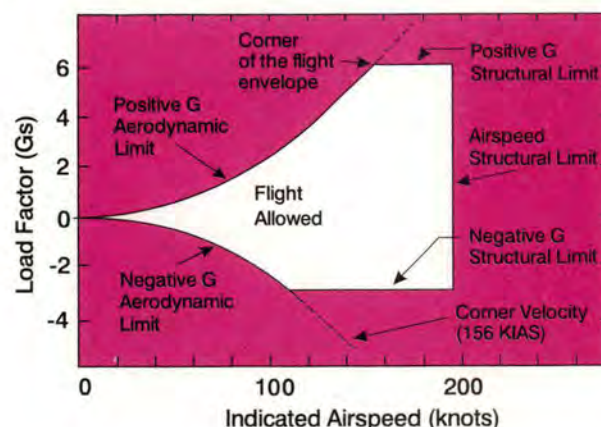

Figure 1
Figure 1 shows a fictitious but reasonable flight strength envelope for the T-3. The actual flight strength envelope isn't included in the Dash 1, so I extrapolated the envelope from other Dash 1 parameters. This "unofficial" diagram is about as simple as they come—parabolic aerodynamic limit curves ($n \propto v^2$), constant redline speeds and constant structural limits.
A flight strength envelope plotted like figure 1 is also known as a V-n diagram, as the horizontal axis is the aircraft's airspeed (V) while the vertical axis is the load factor (n), or (very loosely) the number of Gs being pulled. The horizontal lines at +6 and -3 Gs are the structural limits. The vertical line at 195 knots is the redline airspeed. The two curved lines that start at the origin and arc up to the structural limit lines are the aerodynamic stall limits. An attempt to fly with a combination of air-